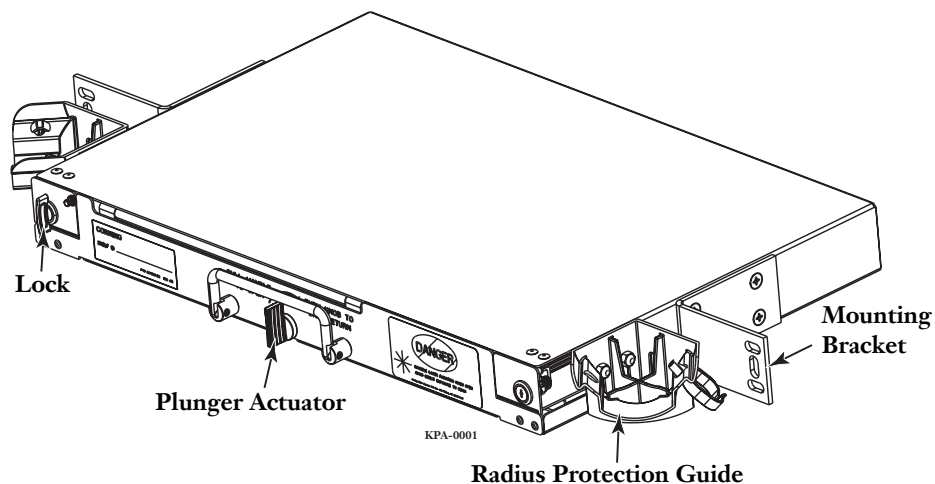

Figure 1 — Attach Brackets to Housing
- Step 3:** Attach brackets to the frame (Figure 1).